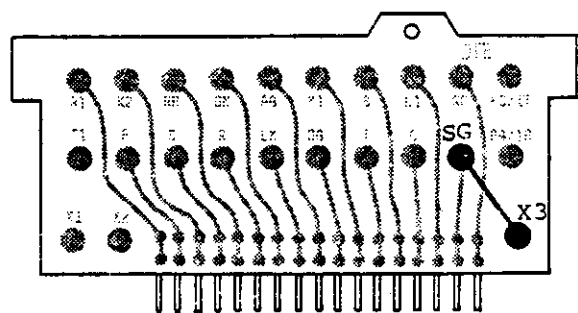

Figure 1
- g) Modify the DTB by soldering a strap between SG and X3. This strap must be soldered to the back of the DTB as shown in figure 1. Use a small piece of 24-gauge wire for the strap. Be careful to avoid solder bridges to adjacent runs on the DTB.
# Refer to figure 1.